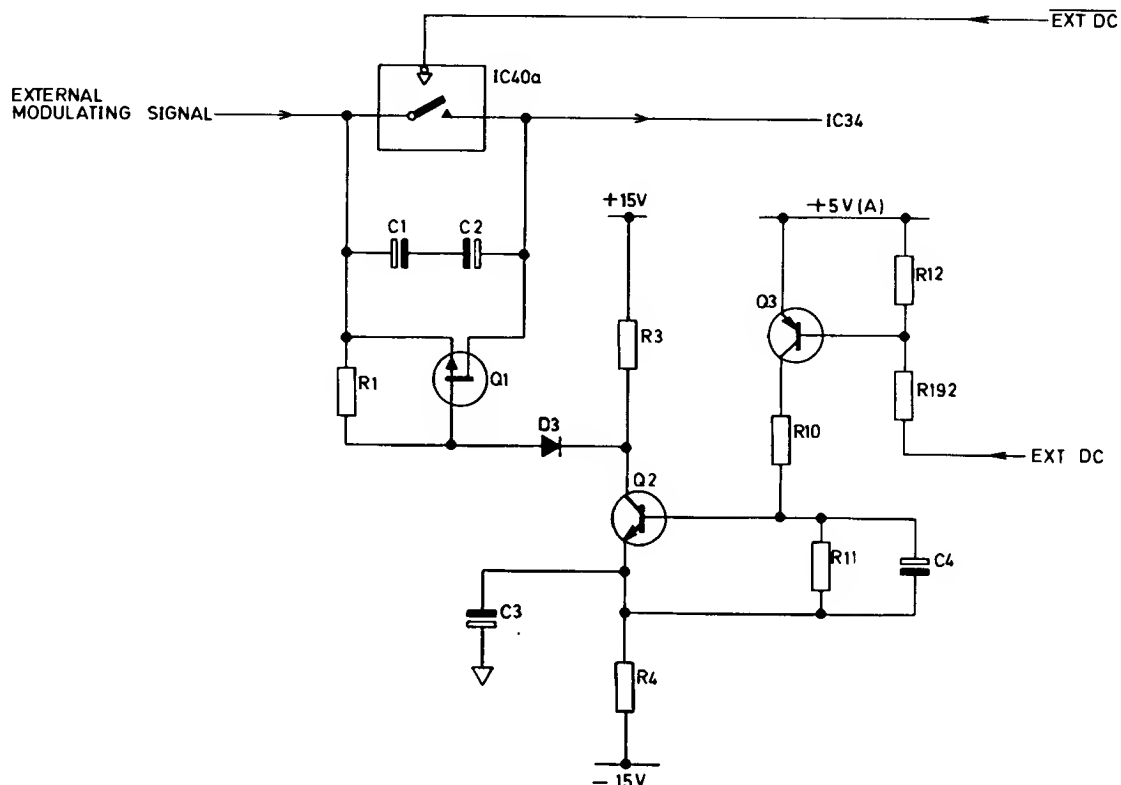

Fig. 6.3 AC/DC Coupling Selection Circuit
6.5.2.2.1 The audio outputs of the reference system module enter assembly 19-1048 at coaxial sockets 21 (1 kHz) and 22 (400 Hz), and are fed directly to the modulating-source-selection circuit. The signal from an external modulation source enters the assembly at SK23, and is fed to the AC/DC coupling selection circuit, IC40a and Q1, shown in Fig. 6.3.